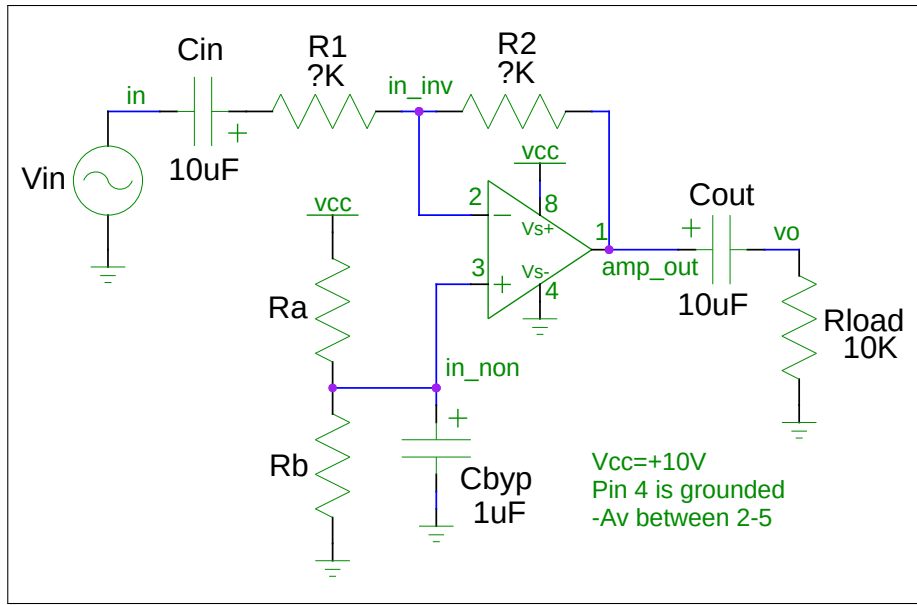

Figure 7: Single-Supply Inverting amplifier
7. Copy the schematic in Figure 7 into your lab notebook. With the resistor values used in the previous amplifiers, create a single-supply, inverting amplifier a gain roughly between -2 and -5.